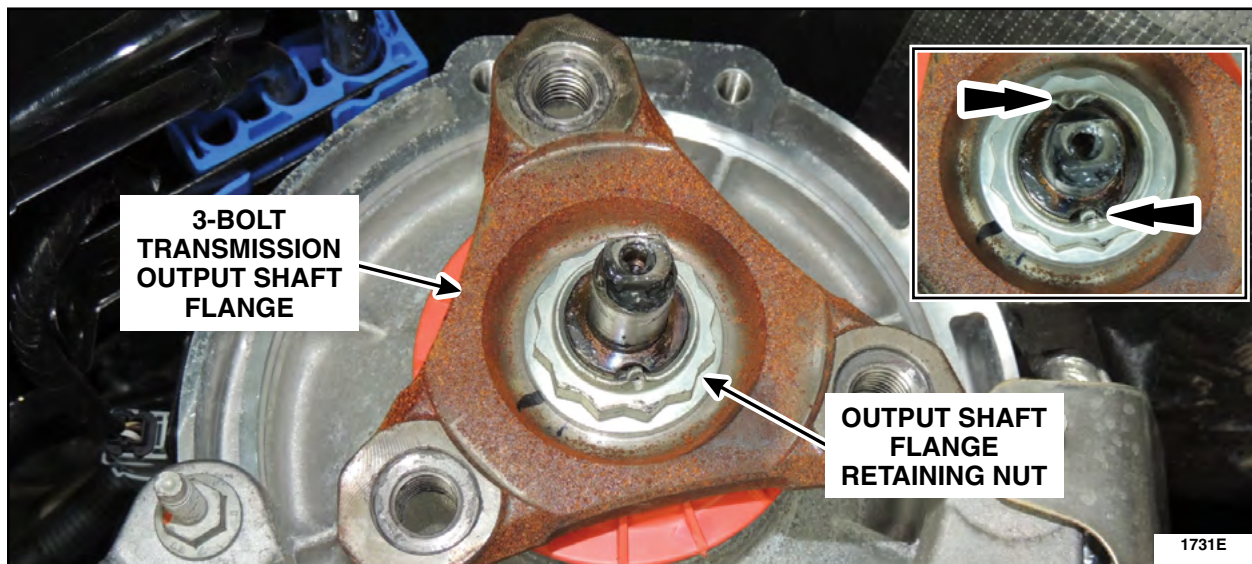

FIGURE 7
2. Using a 1/2" drive, 34mm, 12-point deep socket, remove and discard the 3-bolt transmission output shaft flange retaining nut and flange. (See Figure 7):